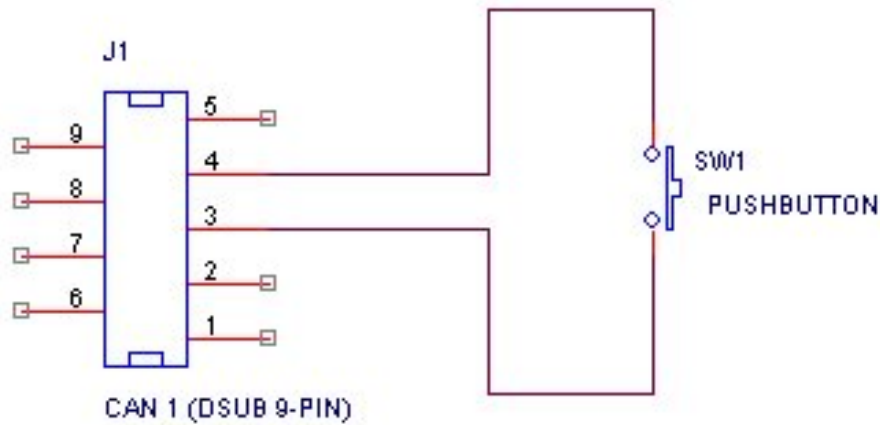

Figure 4: How to connect an external trigger switch
- On the 9 pin CAN1 connector, connect a switch from pin 4 to ground, which can be found on pin 3 of the same connector. See Figure 4 on Page 16.